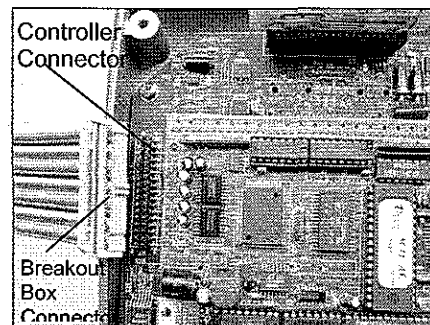
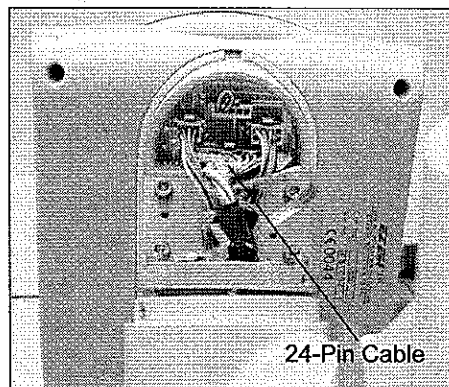

Figure 4-19a: Connecting the Breakout Box
Figure 4-19b: Controller PCB
- a. Connect the breakout box's ribbon cable to the Controller PCB (see Figure 4-19a).
- (1) Single Board Computer (see Section 5.4.3 – Replacing the Single Board Computer).
- (2) Controller PCB (see Section 5.4.4 – Replacing the Controller PCB).
- a. Remove the Injector Controller Cable Cover (see Section 5.4.1 – Replacing the Injector Controller Cable Cover) and disconnect the 24-pin connector from the back of the Controller PCB (see Figure 4-19b).